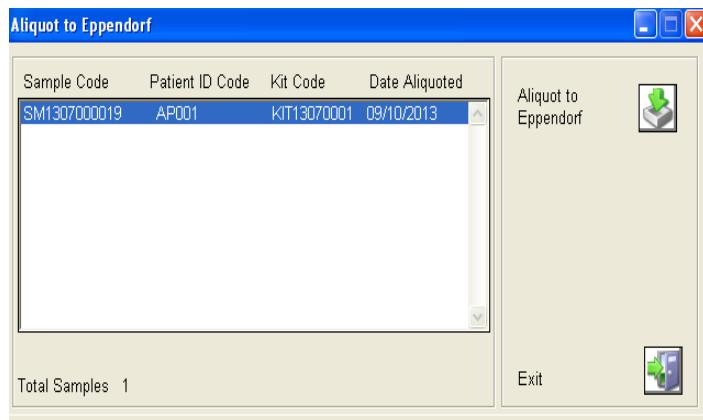

Figure 23: Aliquot to Eppendorf
15. Highlight the appropriate AP code and the Eppendorf tubes for that kit will appear in the box on the right in the screen. Select individually all tubes that are used and click the '**Aliquot**' button to aliquot the sample to the Eppendorf. This will bring up the screen '**Aliquot to Eppendorf**' (Figure 23).